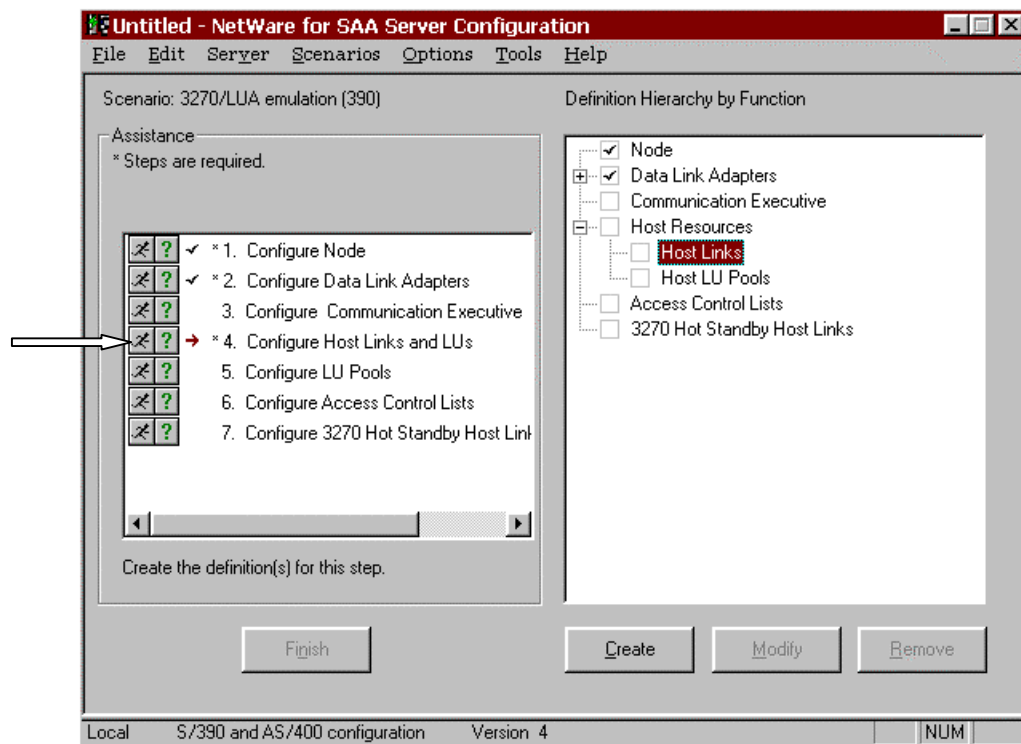

Figure 11-10. Start a Host Link Configuration
1. Click the “Running Man” next to **Configure Host Links and LUs** (Figure 11-10).